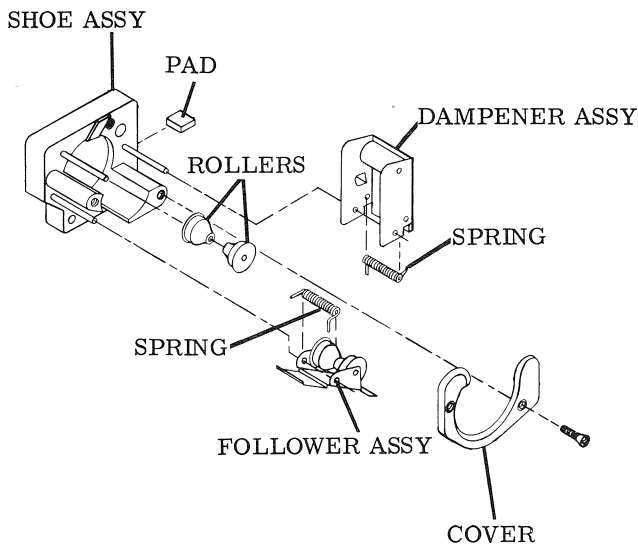

Figure 3-25. FEED SPROCKET SHOE COMPLETE
13. Feed Sprocket Shoe Complete (Figure 3-25)